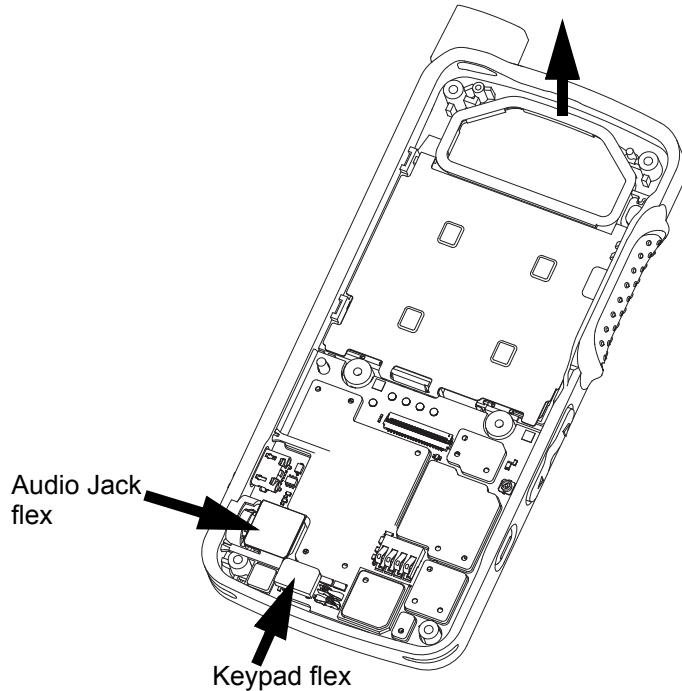

Figure 5-12. Audio jack flex and keypad flex disassembly
3. Remove the audio seal as shown in Figure 5-12.